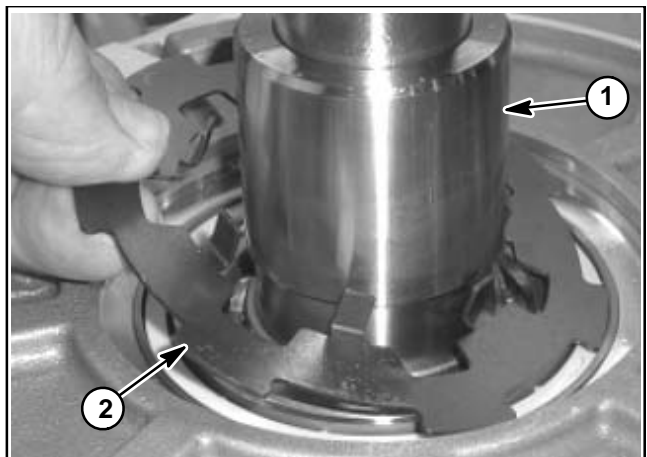

Figure 20
15. Remove the armature plate from the cover plate (Fig. 20).